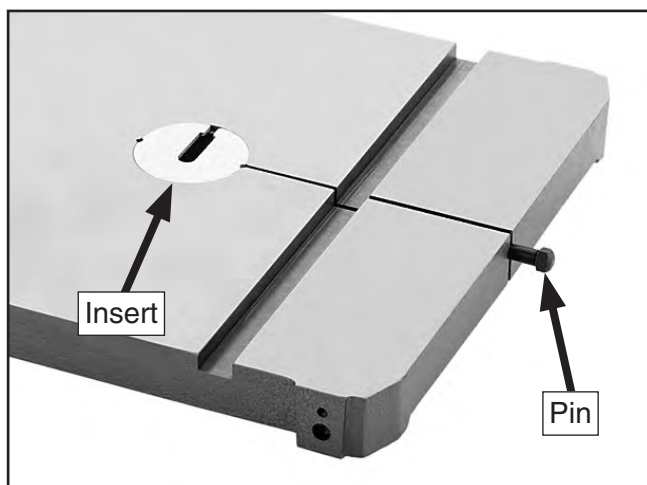

Figure 16. Table insert and pin.
11. Remove the aluminum table insert from the center of the table and remove the table pin from the end of the table slot (see **Figure 16**).